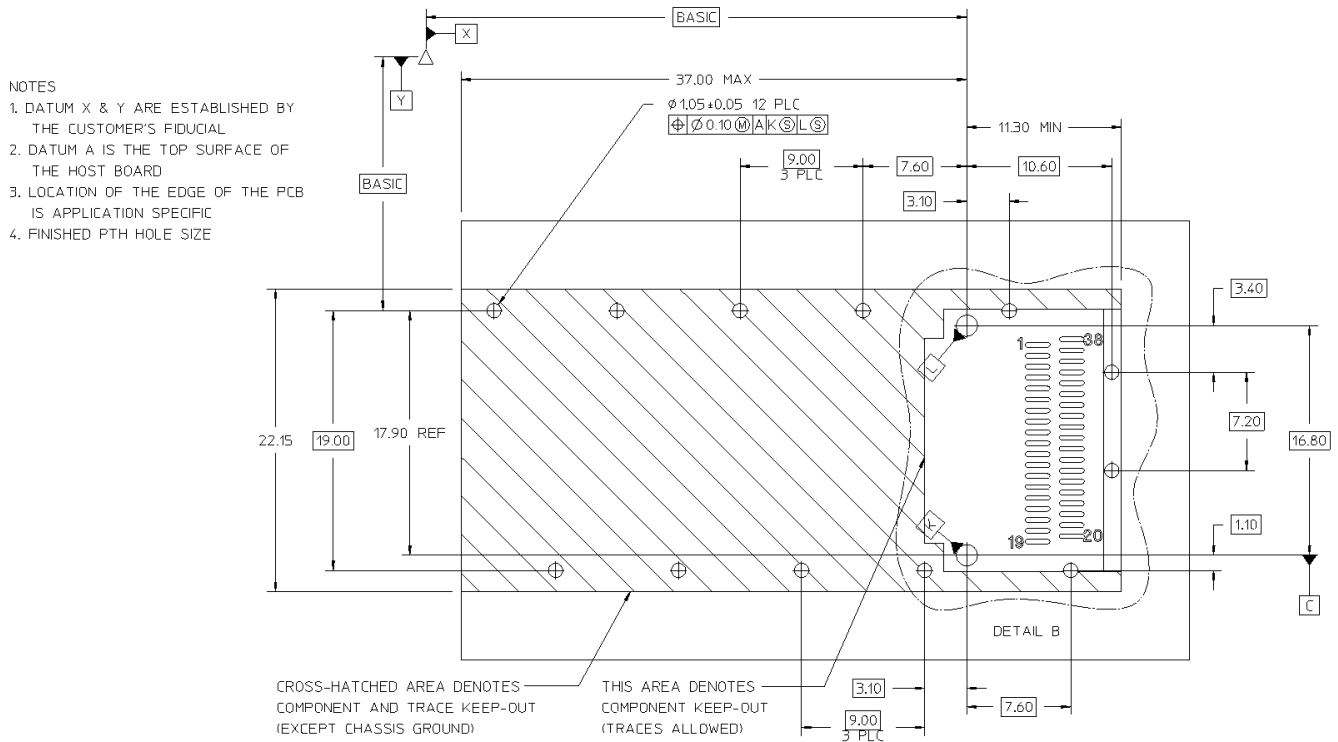
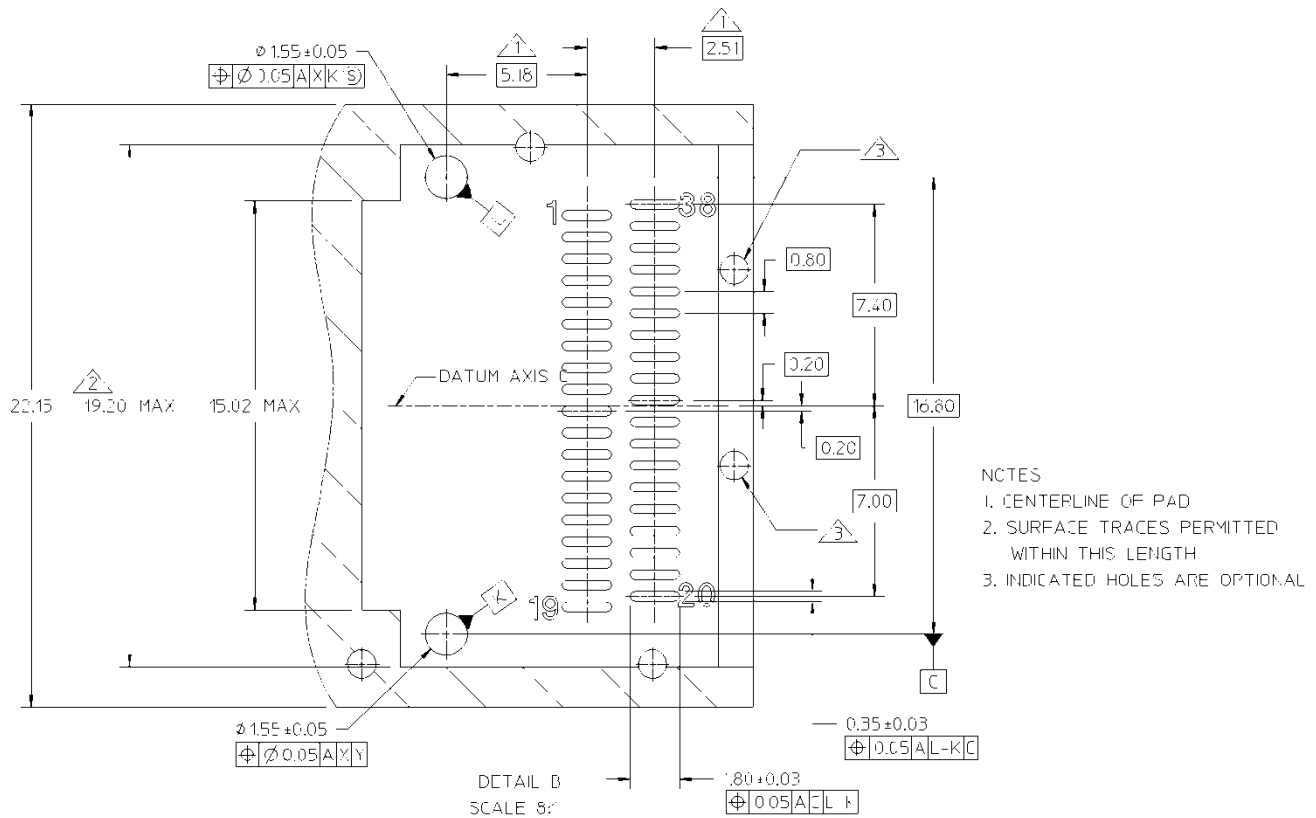

**Figure 11 – QSFP+ Host PCB Mechanical Layout**
**Figure 12 – QSFP+ Host PCB Mechanical Layout, Detail Z**
A typical host board mechanical layout for attaching the QSFP+ Connector and Cage System is shown in Figure 11 and Figure 12. Location of the pattern on the host board is application specific. See Sub-clause 5.6 for details on the location of the pattern relative to the bezel.
- BKL is the distance from the back of the bezel to the centerline of Datums K & L. See Figure 11 and Figure 12 (Note: dimension from front of bezel to centerline of Datums K & L must not exceed 48.25mm).